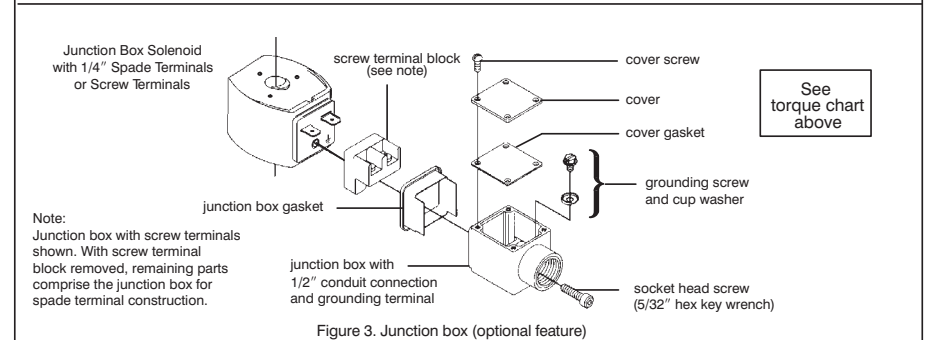

Figure 3. Junction box (optional feature)
- **Junction Box:** This junction box construction meets Enclosure Types 2,3,3S,4, and 4X. Only solenoids with 1/4" spade or screw terminals may have a junction box. The junction box provides a 1/2" conduit connection, grounding and spade or screw terminal connections within the junction box (See Figure 3).